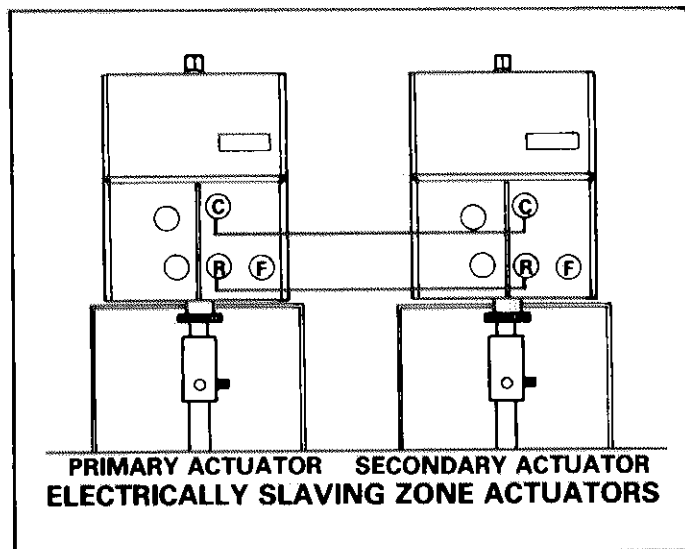

FIGURE 118
- 2 - Connect terminal C of secondary motor to terminal C of primary motor. Refer to Figure 118.